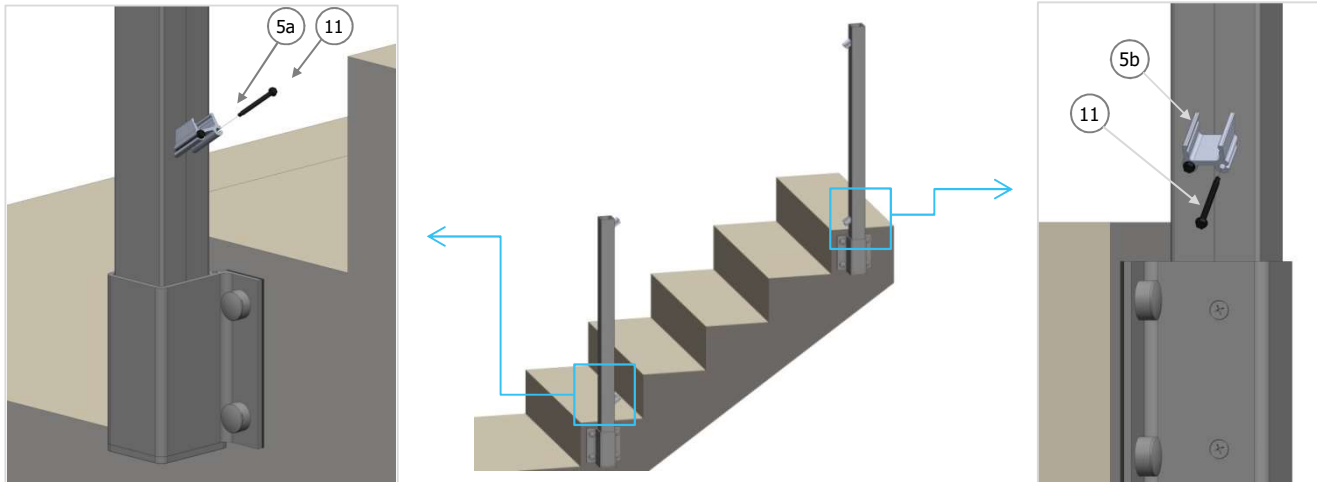

Fig 15
- Drill 2 clearance holes in the upper infill (18) 1.25" from both ends with a 5/32" drill bit.
- Install #8 x 7/16" Pan Head Tek Screw (21) from upper infill to RCB (Fig 15).